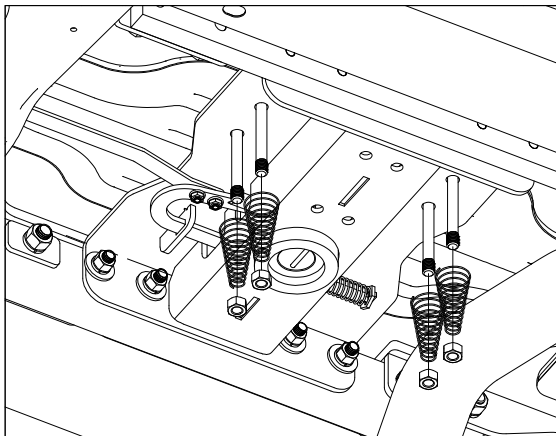

Figure G2: View looking up at U-bolt installation locations in center section.
3. **Add springs.** Place a conical spring over each leg of the U-bolts and secure with a 1/2" lock nut, see Figure G2. Tighten the lock nut until the nut is flush with the end of the U-bolt.